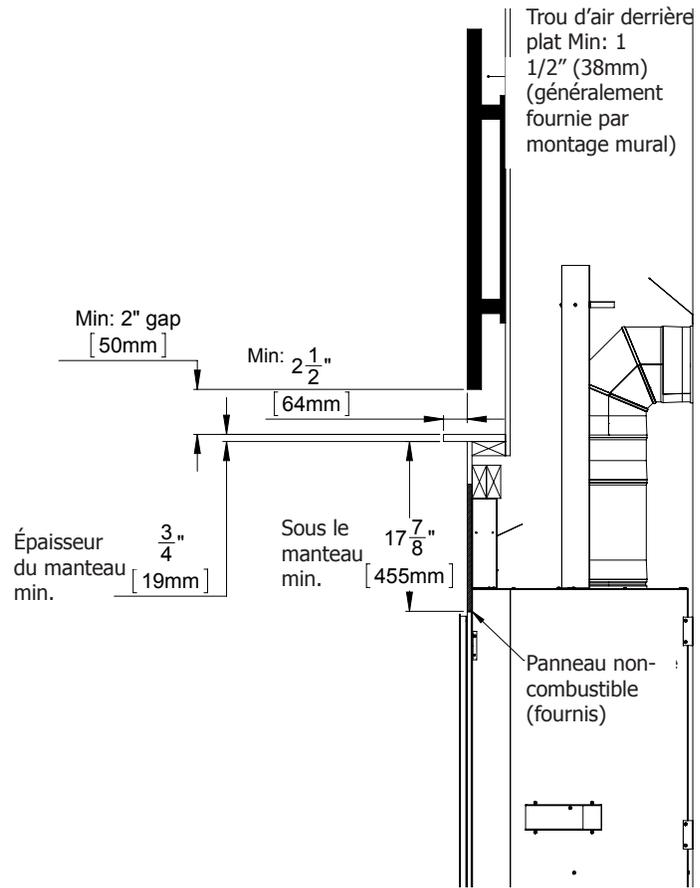

Figure 60. Installation Minimale de la Télévision Encastrée
**Recess/Manteau Installation:** Always maintain minimum recess and mantel clearances (see Figure 60). The total depth of the TV, including wall mount, and recess will determine the minimum allowable mantel protrusion.